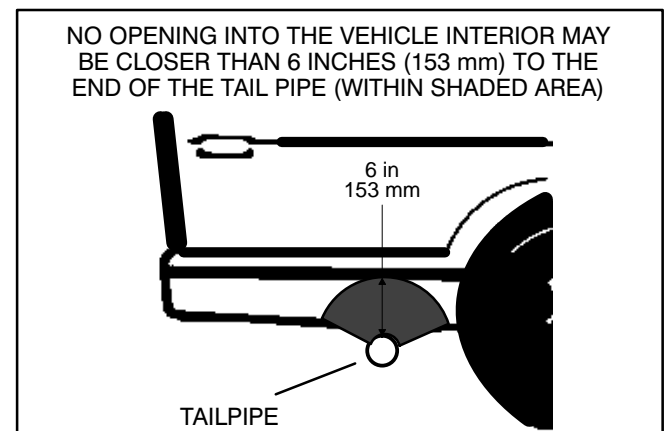

FIGURE 8. MINIMUM DISTANCES TO OPENINGS
7. Do not terminate the tail pipe such that it is closer than 6 inches (153 mm) to any opening, such as a door, window, vent or unsealed compartment, into the vehicle interior (Figure 8)